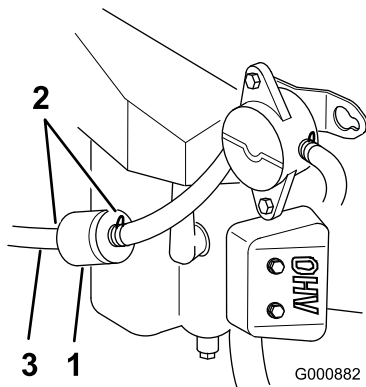

Figure 37
5. Loosen the hose clamp at the fuel filter and slide it up the fuel line away from the fuel filter (Figure 37).
6. Pull the fuel line off of the fuel filter (Figure 37).
4. Squeeze the ends of the hose clamps together and slide them away from the filter (Figure 37).
6. Install a new filter and move the hose clamps close to the filter (Figure 37).